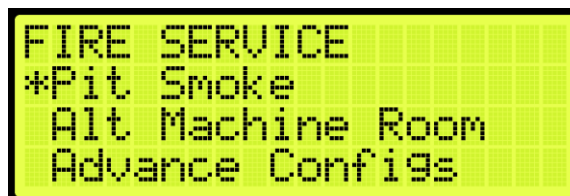

Figure 555: FIRE SERVICE Menu – PIT Smoke
- From the FIRE SERVICE menu, scroll and select PIT Smoke (See Figure 555).
2. From the FIRE SERVICE menu, scroll and select PIT Smoke (See Figure 555).